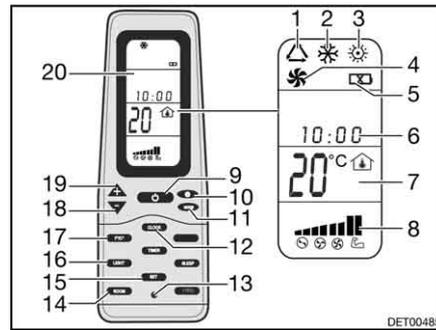

Fig. 133 Remote control
- Press the ON/OFF button (Fig. 133,9).
- Press the "Mode" button (Fig. 133,11) as often as required until the required mode (Fig. 133,1, 2, 3 or 4) is indicated on the display (Fig. 133,20).
- Use the "+" (Fig. 133,19) and "-" (Fig. 133,18) buttons to set the desired temperature.
- Use the fan speed button (Fig. 133,10) to select the desired fan level.